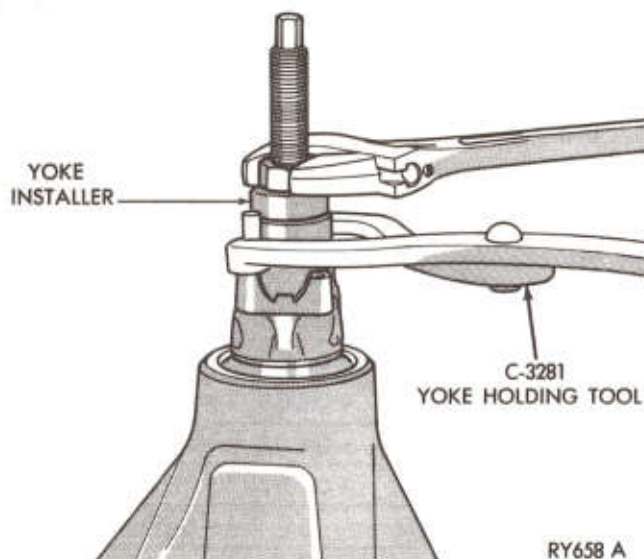

Fig. 21—Installing Pinion and Yoke
(3) Install pinion into carrier followed by the outer pinion bearing cone, (baffle if used), end yoke, washer and nut. Use yoke installing Tool C-496 and Tool C-3281 (Fig. 21).